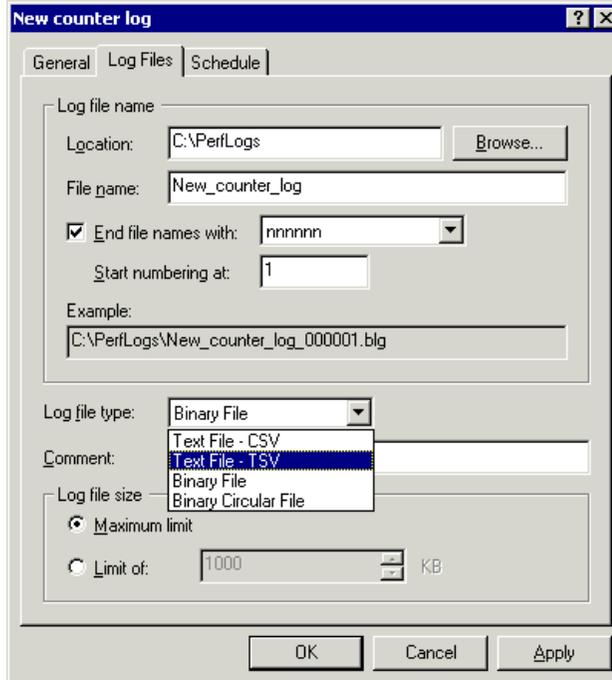

Figure 127. Log Files tab
6. The Log Files tab in Figure 127 allows you to set the location, file name, file type, and add a comment and file size for the log file.